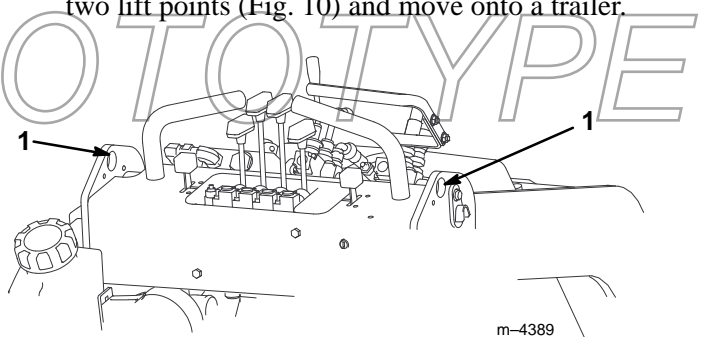

Figure 10
2. Lift the traction unit off the ground, using the two lift points (Fig. 10) and move onto a trailer.